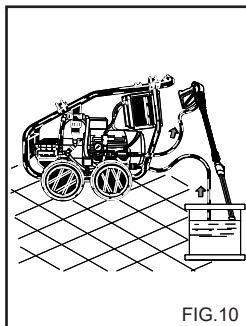

FIG.10
**OPERAÇÕES PARA O USO DE ANTI-CONGELANTE (fig. 10)**